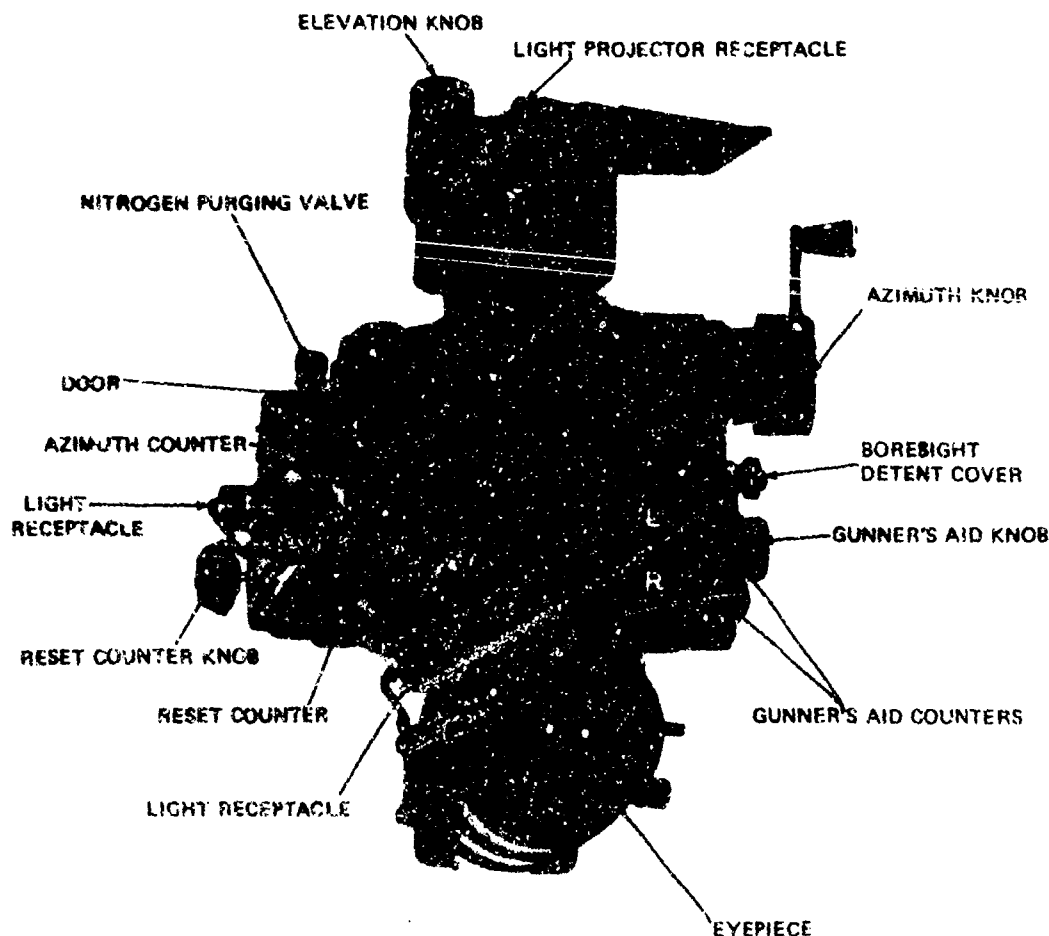

Figure 4-36. Panoramic telescope M113.
(1) The panoramic telescope M113A1 (fig 4-36) is the basic instrument used in laying the weapon in direction. A 1,600 mil prism, reticle, and the objective lenses are mounted rigidly with respect to one another in a rotating assembly that